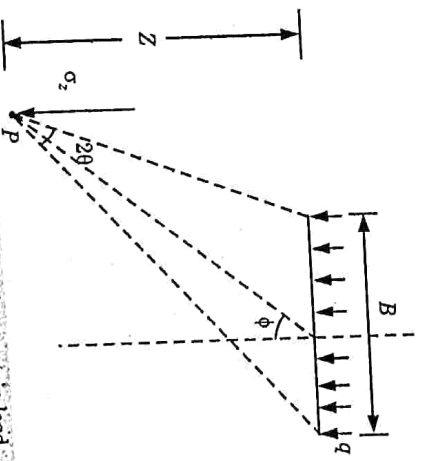

Fig. 4.8.2. Vertical stress due to strip load.
The vertical stress (σ_z) at a point P, due to a uniform load of intensity q on strip of width (B) and semi-infinite length (Fig. 4.8.2) is given by,